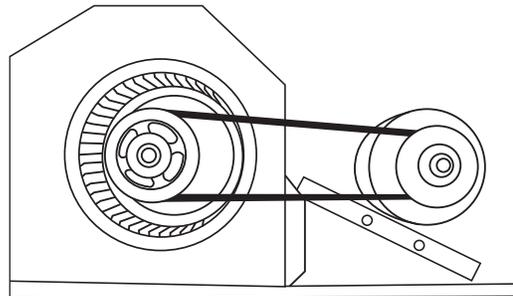

Fig. 5 - Belt Drive Motor Mounting
The supply fan system consists of a forward-curved centrifugal blower wheel on a solid shaft with two concentric type bearings, one on each side of the blower housing. A fixed-pitch driven pulley is attached to the fan shaft and an adjustable-pitch driver pulley is on the motor. The pulleys are connected using a “V” type belt. (See Fig. 5.)
2. Loosen belt by loosening fan motor mounting nuts. (See Fig. 5.)